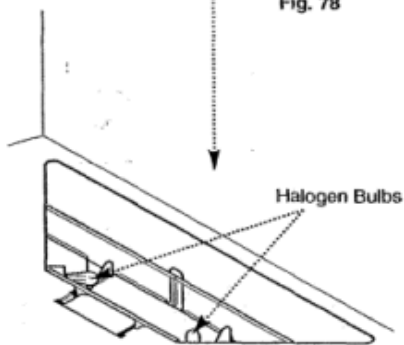

Fig. 79
3. Remove the bulb by pulling out from the ceramic bulb holder to disengage the pins (Fig. 79).